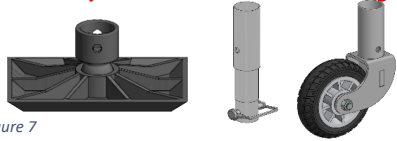

Figure 7
- Figure 7 these are the attachments to be removed from all units in order to lock the inner pipe in before travelling.